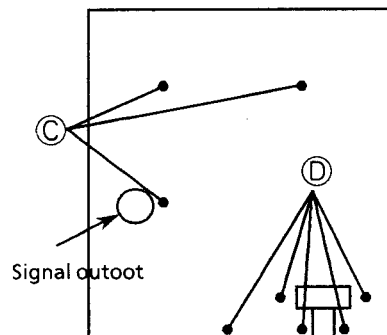

Fig 3. Rear View
(3) Removing the Rear panel(Fig.3)